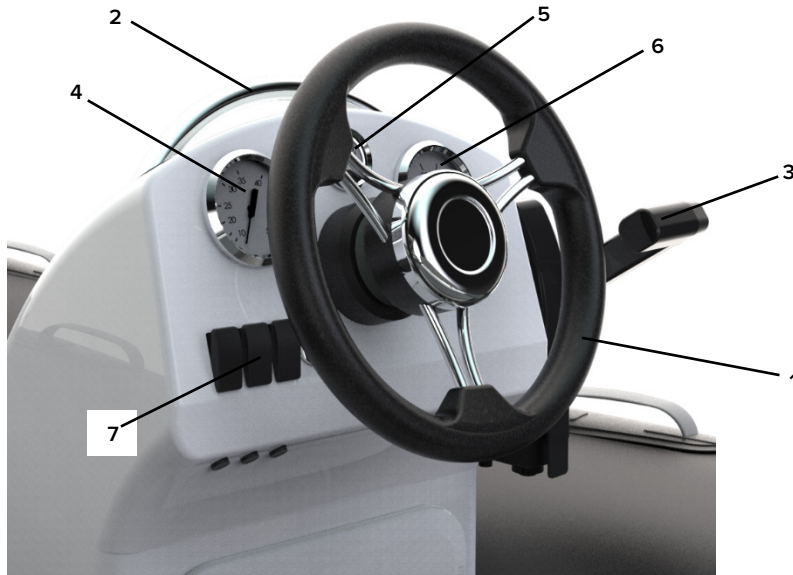

Fig. 36. Steering console components.
**Steering console components** (see fig. 36 on the previous page):